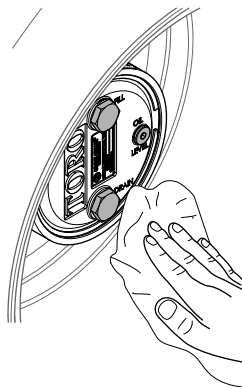

Figure 65
3. Wipe clean the planetary and brake housings (Figure 65).